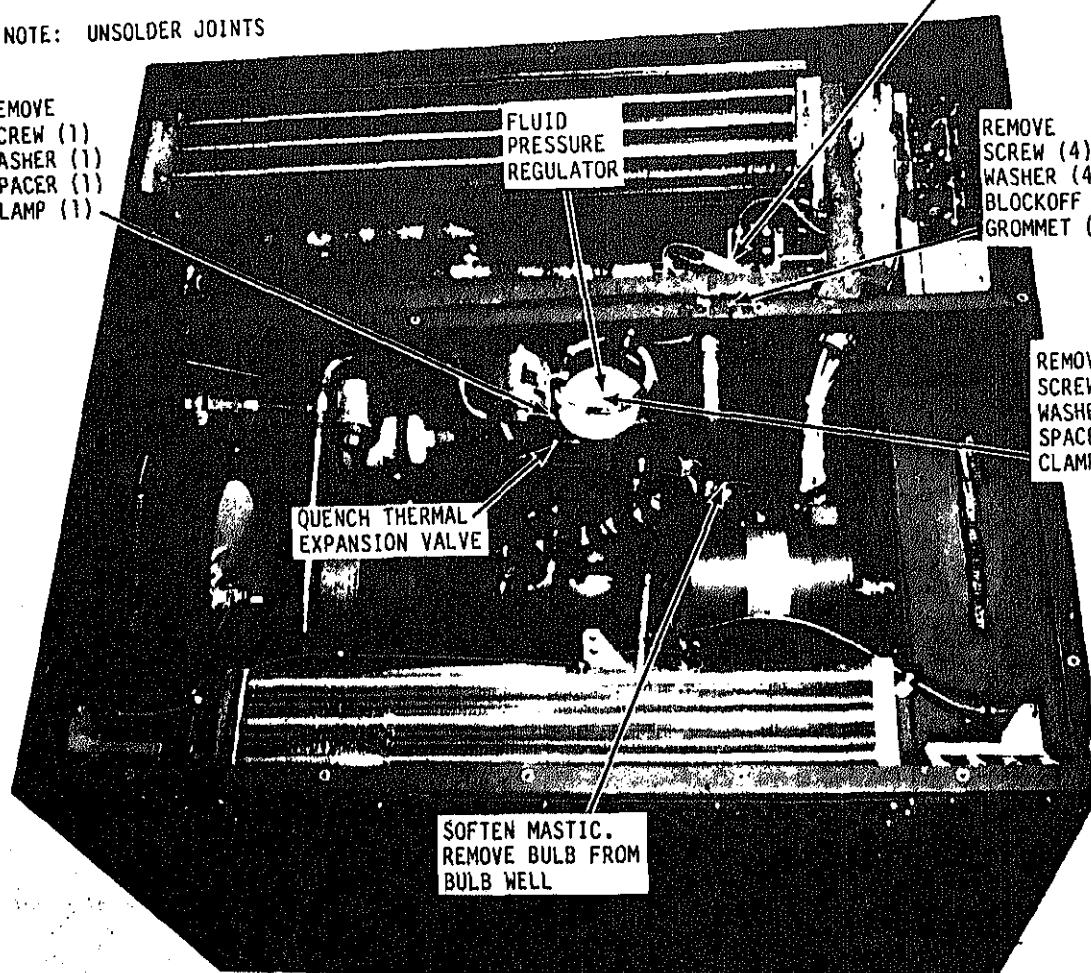

Figure 5-11. Quench thermal expansion valve and fluid pressure regulator, rem
(3) Refer to figure 5-11. Soften the mastic in the bulb well and remove the expansion valve bulb. Take care to avoid damaging the capillary tube.
(4) Remove the expansion valve clamp.
(5) Unsolder the expansion valve from the refrigerant system tubing.
(1) Refer to figure 5-11 and mount the expansion valve against the compartment wall using the mounting clamp.
(3) Refer to figure 5-11 and un-clamp the regulator valve sensing bulb.
(4) Remove the regulator valve mounting clamp.
(5) Unsolder the regulator valve from the refrigerant system tubing. Remove by drawing the bulb through the compartment wall.
(1) Refer to figure 5-11 and mount the fluid pressure regulator against the compartment wall using the mounting clamp.